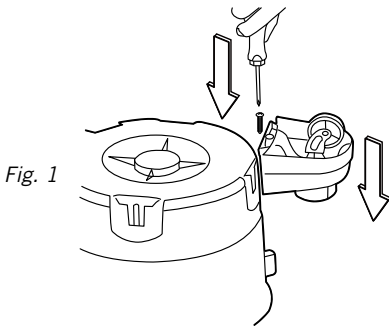

Fig. 1
- Turn the collection tank upside down and insert the four caster feet **5** into the slots on the collection tank and tighten with supplied screws **12**. Verify that the caster feet **5** are mounted correctly. Do not over-tighten screws. **Fig. 1**.